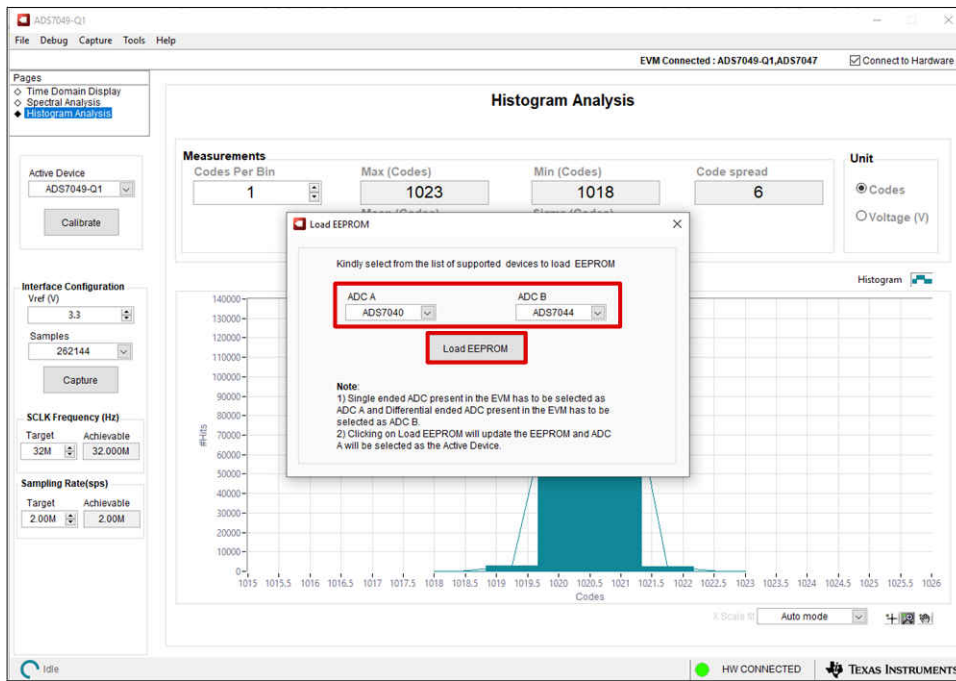

Figure 4-6. Selecting the ADCs and Loading the EEPROM
3. In the pop-up window illustrated in Figure 4-6, select the appropriate device for both ADC A (U3 or U8) and ADC B (U5 or U9)